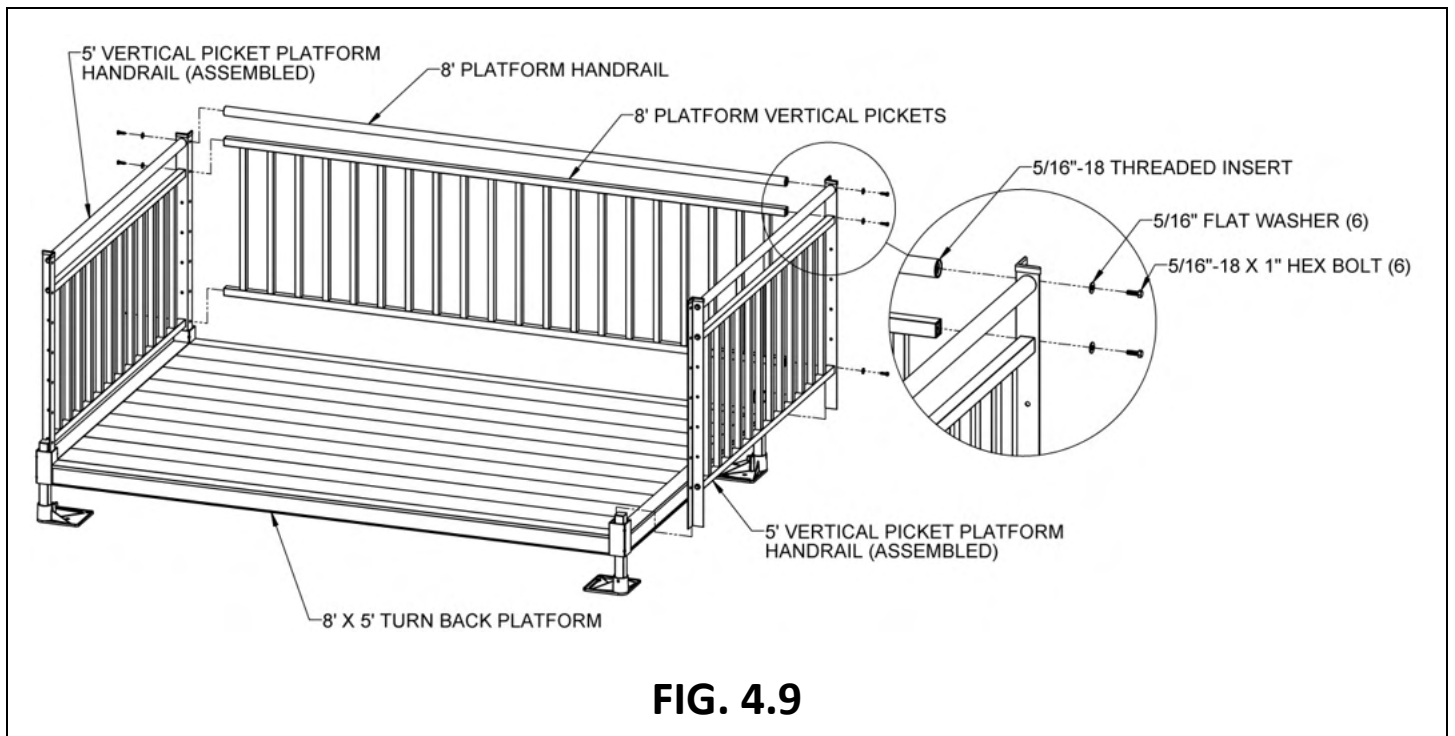

FIG. 4.9
- 4.5.4. 8' platform Vertical Picket handrails are assembled in a similar manner (FIG. 4.9).